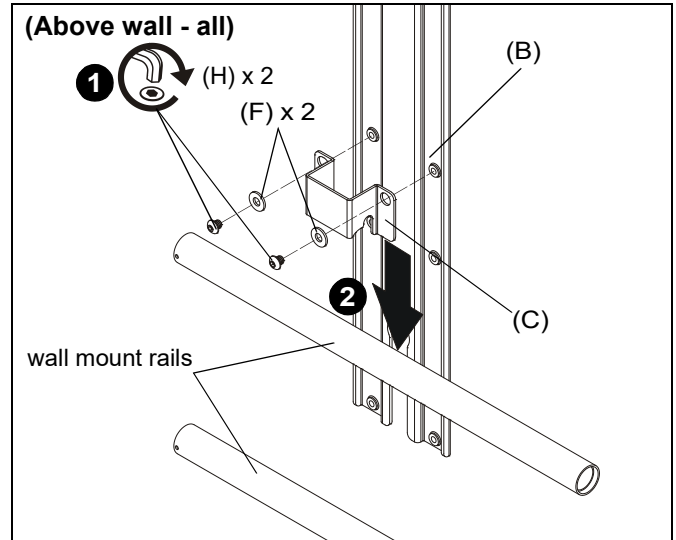

Figure 13
1. Use two 1/4-20 x 1/4" button head cap screws (H) and two large washers (F) to secure shelf bracket (C) to main bracket (B). (See Figure 13)
2. Slide main bracket (B) behind wall mount rails until shelf bracket (C) rests on top wall mount rail. (See Figure 13)